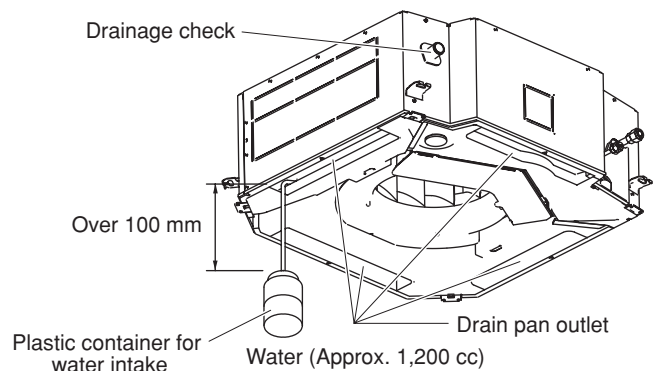

Fig. 3-12
- (1) Connect power to the power terminal board (R, S terminals) inside the electrical component box.
- (2) Slowly pour about 1,200 cc of water into the drain pan to check drainage. (Fig. 3-12)
- (3) Short the check pin (CHK) on the indoor control board and operate the drain pump. Check the water flow through the transparent drain pipe and see if there is any leakage.
- (4) When the check of drainage is complete, open the check pin (CHK) and remount the tube cover.